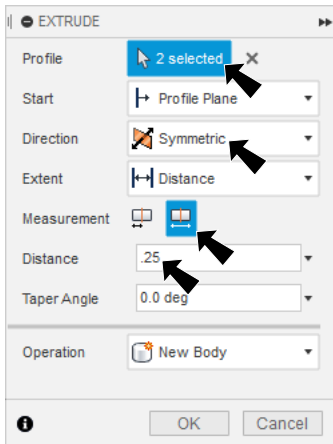

Fig. 16
Step 4. In the Extrude panel set, Fig. 16